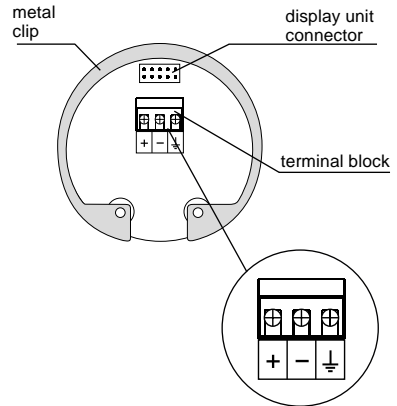

Fig. 14: Inside view of screw terminals of the level meter with current output CPC-AR-70 _ _ _ I
5. Connect the cable to the screw terminals according to the diagram in Fig. 14. Firmly tighten the terminals and the cable outlet.